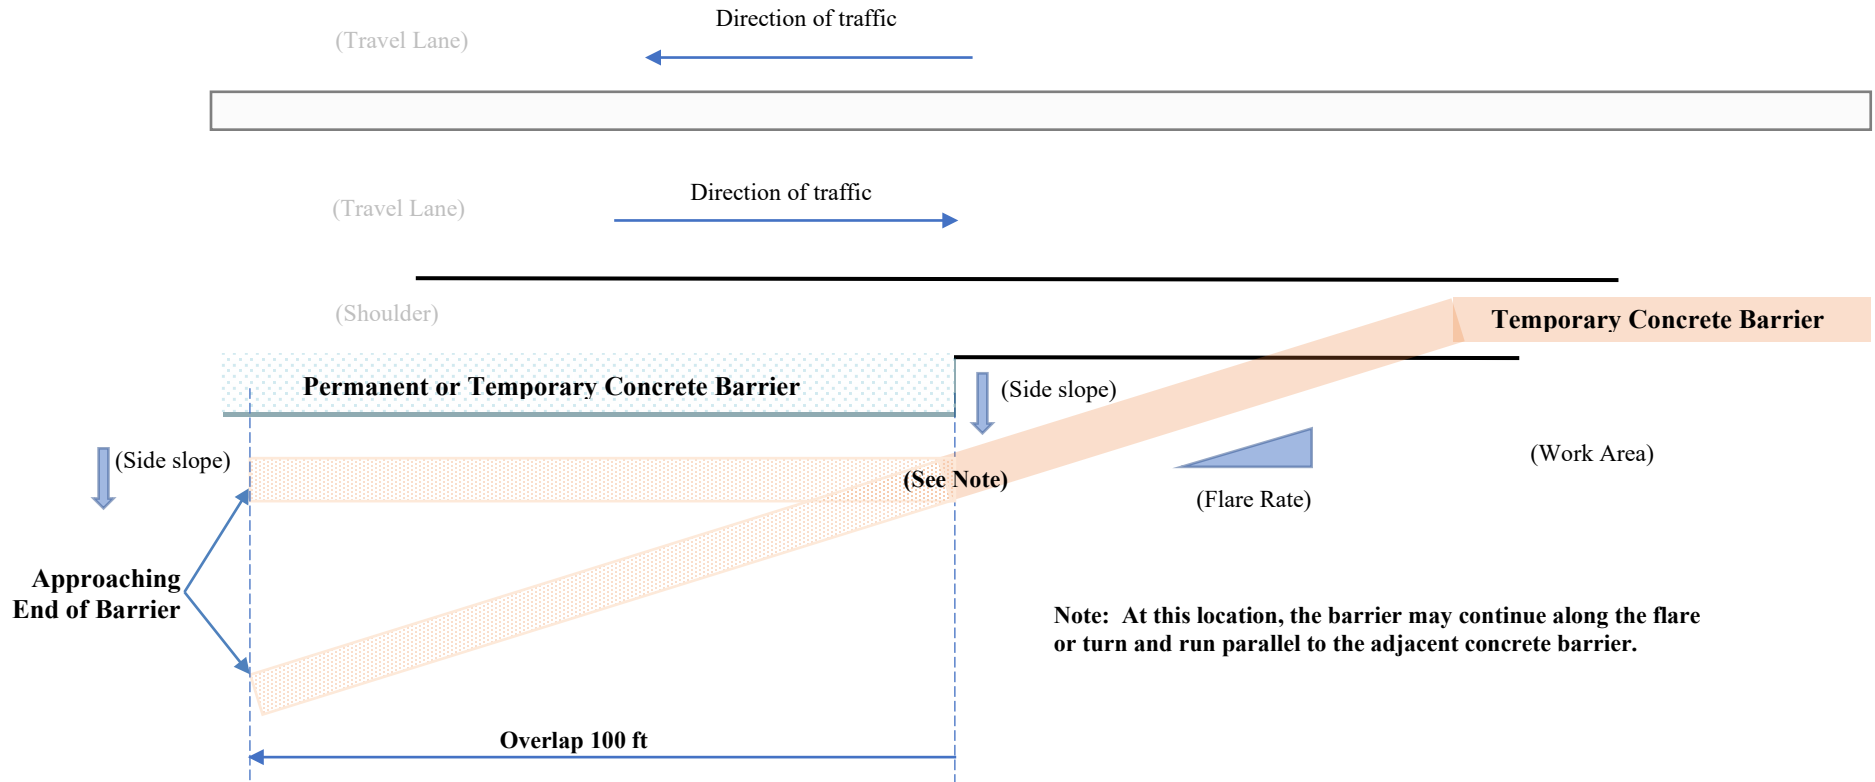

FIGURE 3 - TTB Behind Guardrail
7. TTB placed behind guardrail must meet the following. (Figure 3)
- b. The approach end of the temporary traffic barrier must overlap a minimum distance beyond the end of the guardrail (item 6b).
- c. The slopes leading to and on which the barrier is placed must meet the cross slope/side slope criteria (item 5).